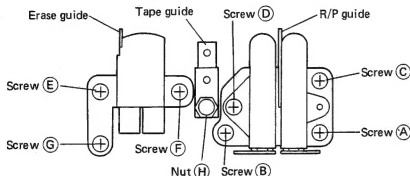

Fig. 4-2
CAUTION 1: Upon replacement of the record/repro head and/or the erase head, loosely tighten screws (A) ~ (G) (Fig. 4-2) then turn them one half back, before starting to perform the following steps. In addition, the procedures require the following materials:
注意. 1. 録・再ヘッド及び消去ヘッドを交換したときには図4-2のネジ(A) ~ (G)を軽く締め切って、その位置からそれぞれのネジを1.5回転緩めた状態で調整を始めること。又、この調整を行う為には次の治具が必要です。
7. Turn in and out the height adjustment screw C (Fig. 4-2) until jig B touches the tape guide lower flange.
13. Play the 315-Hz signal on the tape then the 6.3-kHz signal, to check that the outputs from channels 1 and 4 are in phase as seen on the scope. If necessary, adjust screw B (Fig. 4-2).